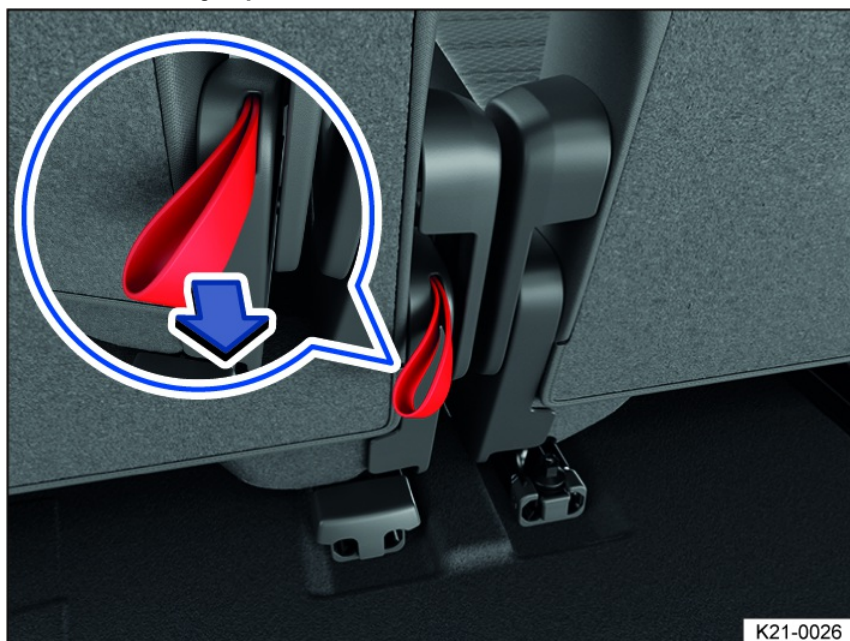

Fig. 88 Second row seats: loop for third row seat emergency exit function.
1. Pull the loop fig. 88 back and fold the rear seat backrest forward.